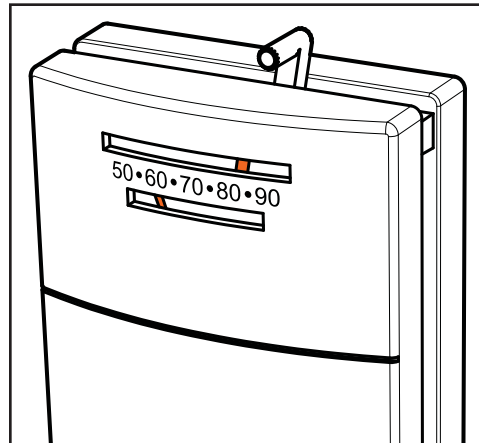

Figure 23.2
1. A low voltage thermostat is required to operate this pellet appliance. You may use the included wall mount thermostat (**Figure 23.2**) or purchase an optional programmable thermostat or remote control. It is equipped with an adjustable heat anticipator. The current rating is .05 amps. The anticipator needs to be adjusted to the lowest setting available.